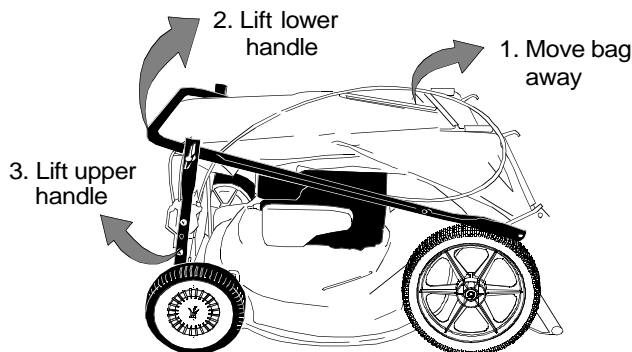

Figure 2
- For shipping purposes, the grass bag was placed on top of the unit. Remove it from the unit and set it out of the way. See Figure 2.
- Raise the lower handle, as shown in Figure 2, till it snaps into place.
- Raise the upper handle as shown in Figure 2.